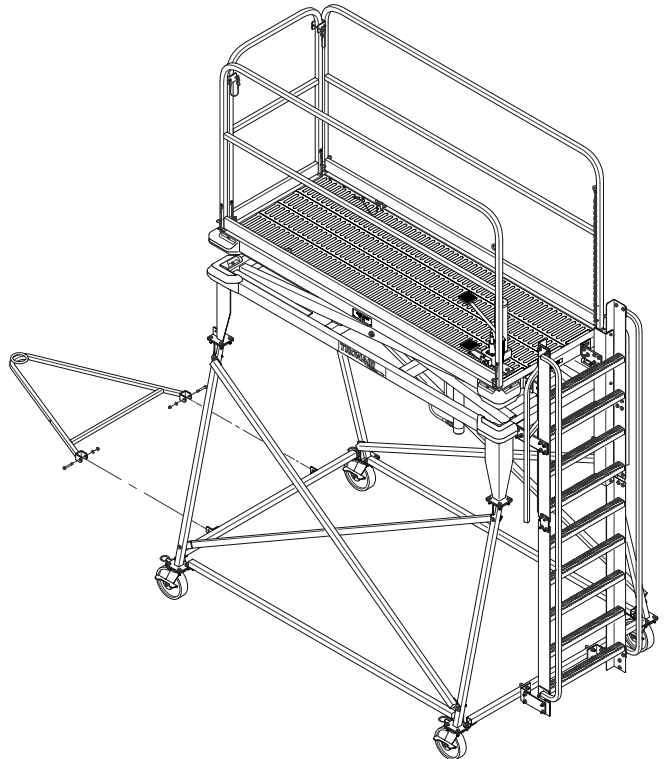

FIGURE 5
7. Install the towbar using $\frac{3}{8}$ inch diameter shoulder bolts (See *Figure 5* - Page 2).